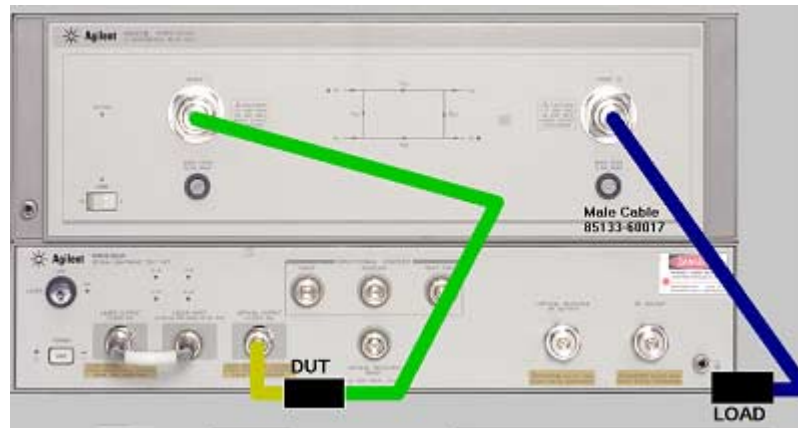

Figure 4-20. Connections for O/E Response and Match Calibration (Std10), and a Device Under Test after an O/E Response and Match Calibration
Pre-Conditions: OERESPNMATCH_STD1, OERESPNMATCH_STD2Open, OERESPNMATCH_STD3Short, OERESPNMATCH_STD4Load, OERESPNMATCH_STD5Open, OERESPNMATCH_STD6Short, OERESPNMATCH_STD7Load, OERESPNMATCH_STD8 and OERESPNMATCH_STD9 have been performed. The following connections in Figure 4-20 have been made on the instrument.
- 2** Connect a device under test, as shown in Figure 4-20.
- 6** Connect a new device under test, as shown in Figure 4-20.
Measurement Connections in Figure 4-20 are for a device under test, after performing an O/E response and match calibration.